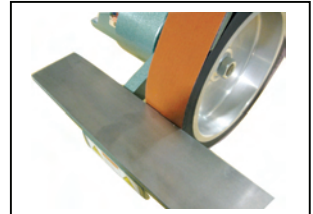

Fig. 2.1
1. Insure that the gap (nip point) between the face of the abrasive belt and the work rest is adjusted so that your work piece will not pass through this gap. See Figure 2.1